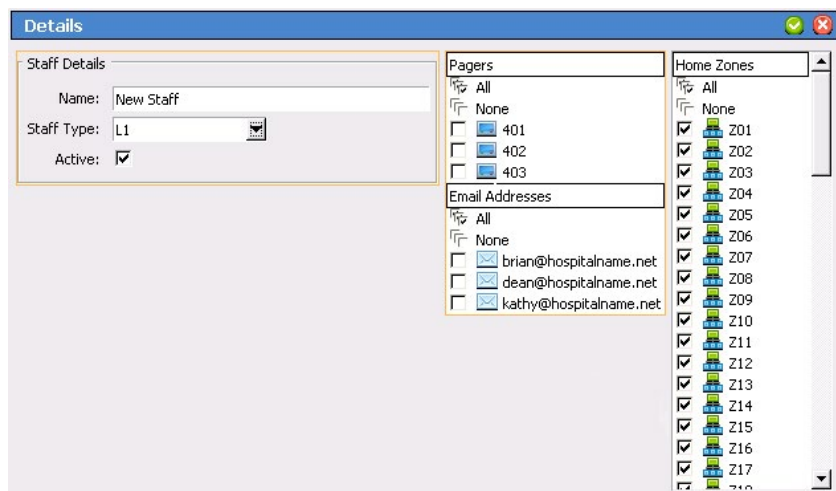

Figure 62: Adding Staff
1. Using the **Staff** register in the Event Monitor software, click the **Add** button in the **Staff** pane. The pane will open for editing as shown in Figure 62.